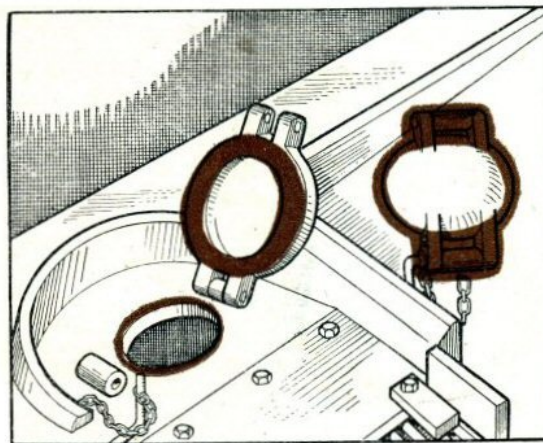

Fig. 37.
5. Using A.C., seal the filler cap covers as Fig. 37. Open each cover and smear its bottom edge with A.C. Close the cover and smear compound around the outside, particularly at the hinge and the locking pin.